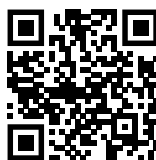

Fig. 155
► Open [Liebherr SmartMonitoring Dashboard](https://smartmonitoring.liebherr.com). (see Fig. 155)